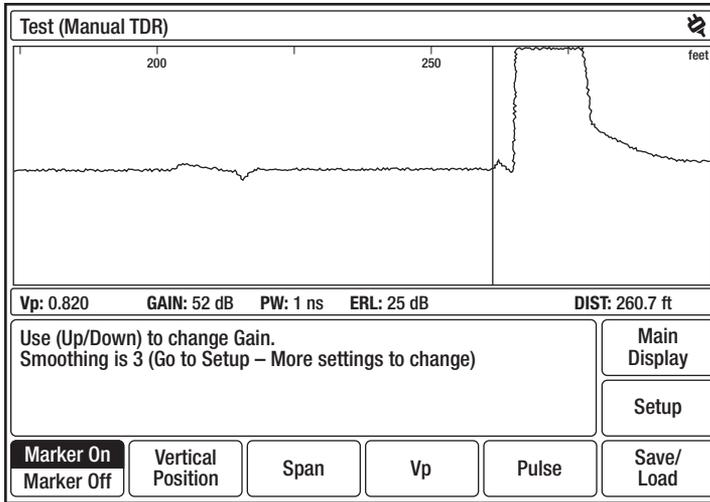

Figure 4-14: Test (Manual TDR)
5. If you selected TEST, press **Return to Test** to view the waveform for your test cable. Figure 4-14 shows a waveform for a TEST in Manual TDR.